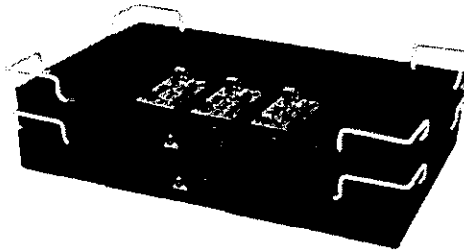

Figure 15: Example of ESD-Safe Trays*
- 5.1 ESD-Safe Stackable Super Tek-Trays with Foam made with High Impact Polypropylene having the dimensions at least 18 "x11-3/8" x1-3/4" (10 sets) and at least 22-3/4"x17-1/2" x2-1/2" (example in Figure 15) (10 sets)